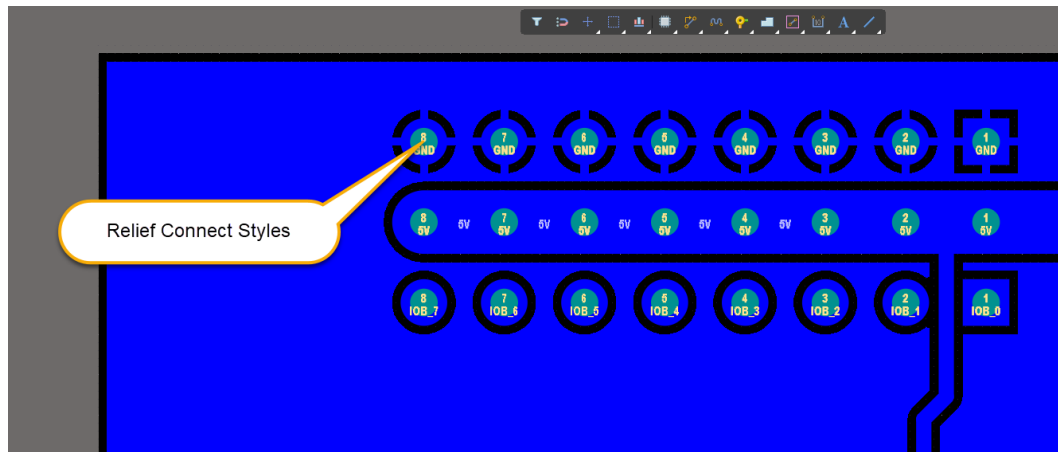

Figure 18. Relief connect style
54. Vias and through-hole pads will be connected to a polygon with either a **Relief Connect** or **Direct Connect** connection style. For example, the through-hole GND pads of component IOG_2 are connected with a relief connect style as shown in Figure 18.